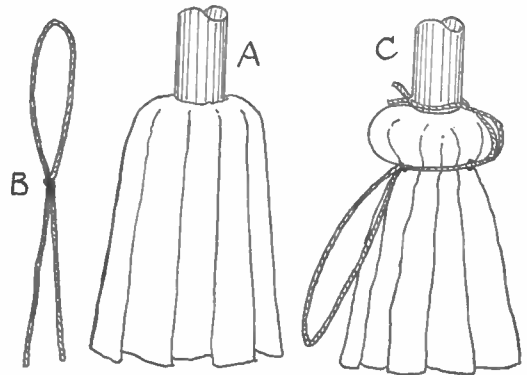
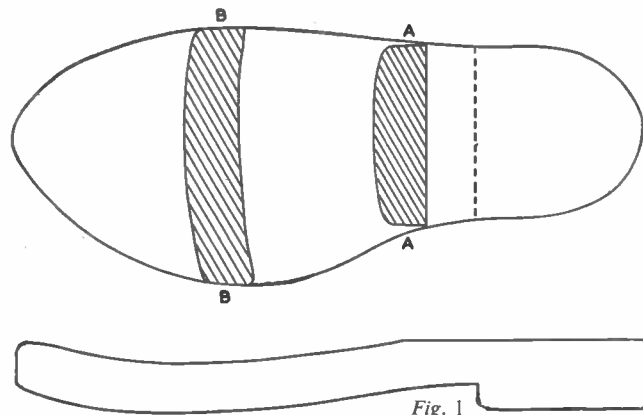

Fig. 2
Fig. 1
Fig. 1 shows the method of fixing or repairing a rail by means of dowels. Legs of chairs, small tables and stools are often secured by this method, providing there is sufficient thickness of wood to allow for the dowels.
Strips of rag are cut to an approximate length of 15ins., and have a slot about 1in. long cut in their centres to slip over the broom handle. Squares of material can be also utilised, slotted at their centres, and cut into strips, the cuts finishing some 2ins. short of the slots. Push these over the handle and press down until they fall over the disc, as shown at Fig. 2 (A).
For the handle an ordinary broomstick can be employed. To one end of this a disc of thick hardwood is firmly fixed with a screw. Cut the disc to size given in Fig. 1, and in its centre, bore a hole halfway through to fit the handle. Glue the handle in and drive a screw, round-headed for choice, through disc into handle. Rasp off the edges of the disc, and glasspaper smooth. As the disc will have to submit to water, it will be wise to either creosote it, or coat it with two or three coats of enamel, or waterproof lacquer or varnish.
For the rack a length of 1in. deal board will be needed. Cut to dimensions given in Fig. 1, and where indicated, bore holes for the pegs between which the broom handles will sit. Wood dowelling 1/4in. diameter will serve for these pegs, six of which are needed. Cut these to length given, plus 1in. over for entering the board. Clean up the board with glasspaper and cut off the corner angles. For fixing the board to the kitchen or scullery wall, bore a pair of holes suitable to the screws employed.
Both the top and bottom are 6in. by 3in. pieces cut from $\frac{3}{8}$ in. sheet, the top having a fretted-out slot as shown in Fig. 1. The ends are cut from $\frac{1}{4}$ in. sheet, the holes being drilled first as in Fig. 2. The sides are from $\frac{3}{8}$ in. sheet. The large hole in end (A) should be opened up with a round file (or glasspaper wrapped around a pencil) to fit a small cork of the
section is shown at (A) in Fig. 1. When this slope is finished, work the shape at the front.
Make a saw-cut $\frac{1}{4}$ in. deep across the top of the wood where the curve reaches its lowest point, and chisel towards the saw-cut from both sides. Finish to the correct shape with the chisel reversed. The clogs will be more comfortable if the top curve is hollowed slightly. (B, Fig. 1.) A cabinet scraper can be used for this purpose; the pressure of the thumbs bending the scraper slightly will